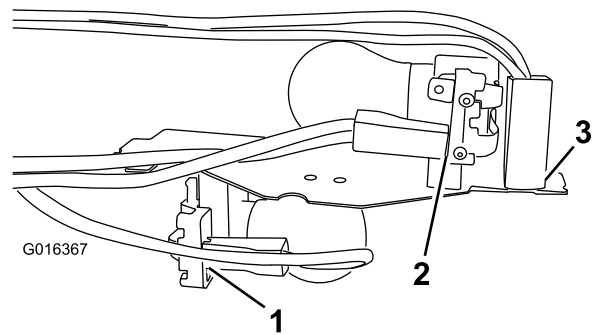

Figure 18
1. Connect the green/white wire to the indicator bulb (Figure 18).
2. Connect the black wire to ground, and bend the tab through 90 degrees as shown in Figure 18.
3. Connect the red/white wire to the 5W side of the side tail light bulb (Figure 18).